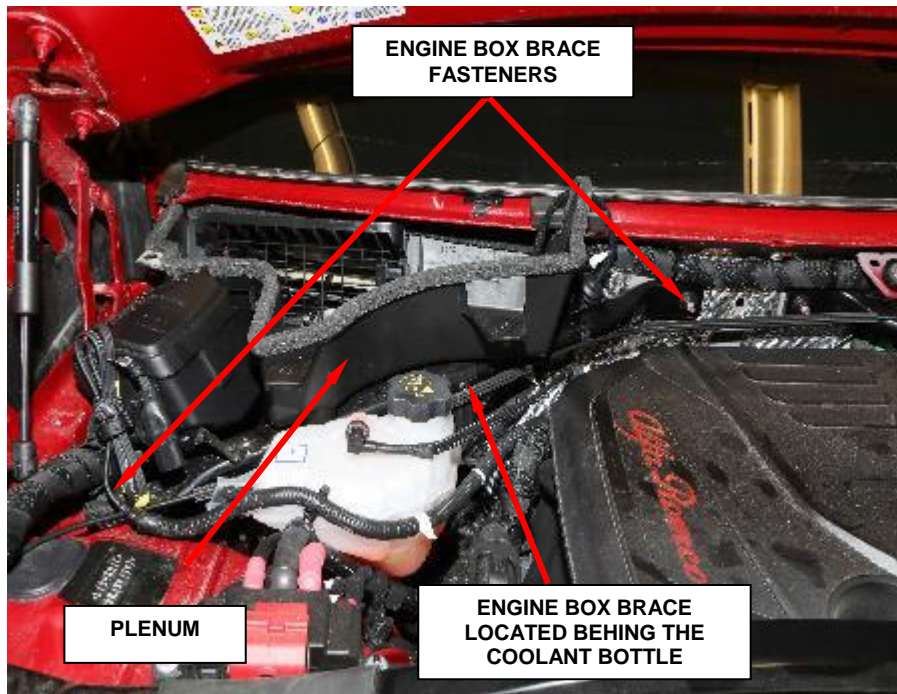

Figure 13 – Engine Box Brace
- 9. Remove the engine box brace (Figure 13).
- 10. Remove the plenum (Figure 13).